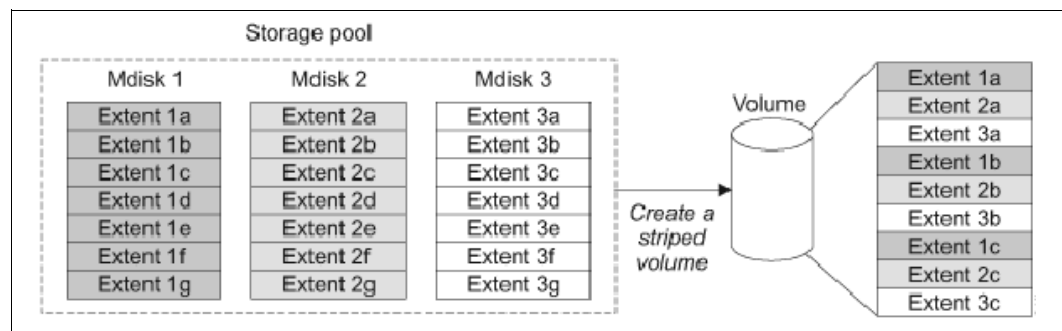

Figure 6-1 Striped extent allocation
- ▶ A striped volume contains a volume copy that has one extent allocated in turn from each MDisk that is in the storage pool. This is the default option, but you can also supply a list of MDisks to use as the stripe set as shown in Figure 6-1 on page 271.